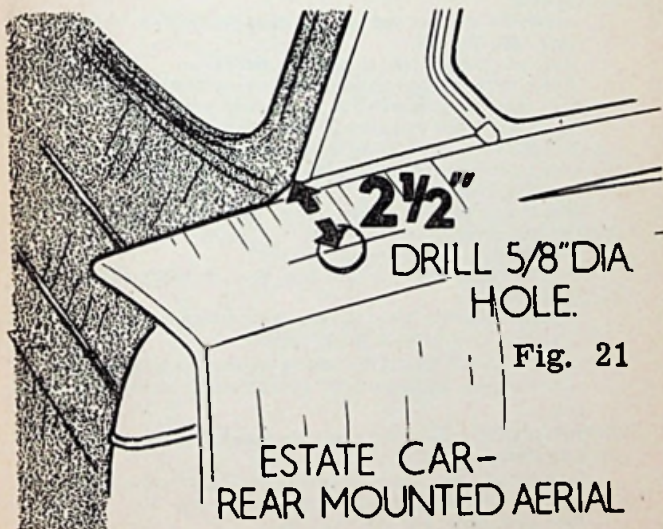

Fig. 21
- (2) and over the wheel arch (held at top by spring clips). Mark Off and cut a 5/8" dia. hole in tail fin at position shown in Fig. 21.
- (3) Clean to bare metal area around hole inside car
- (4) Remove screw and lead and fit aerial assembly to hole. Adjust mast to vertical position, remove assembly and lock mast in position by tightening grub screw found under rubber washer.
- (5) Assemble aerial to fin